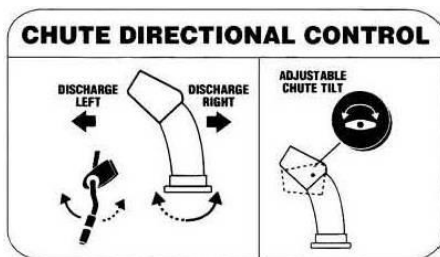

Figure 8
- Crank counterclockwise to discharge to the left. See Figure 8.